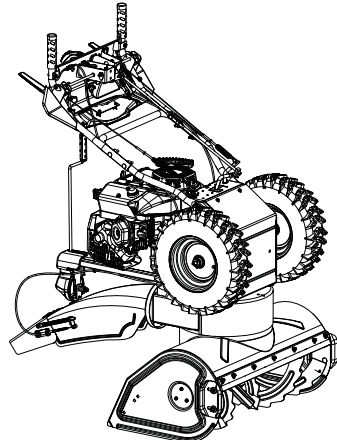

Figure 13
See Figure 13.
1. Place unit in service position. See Figure 13.